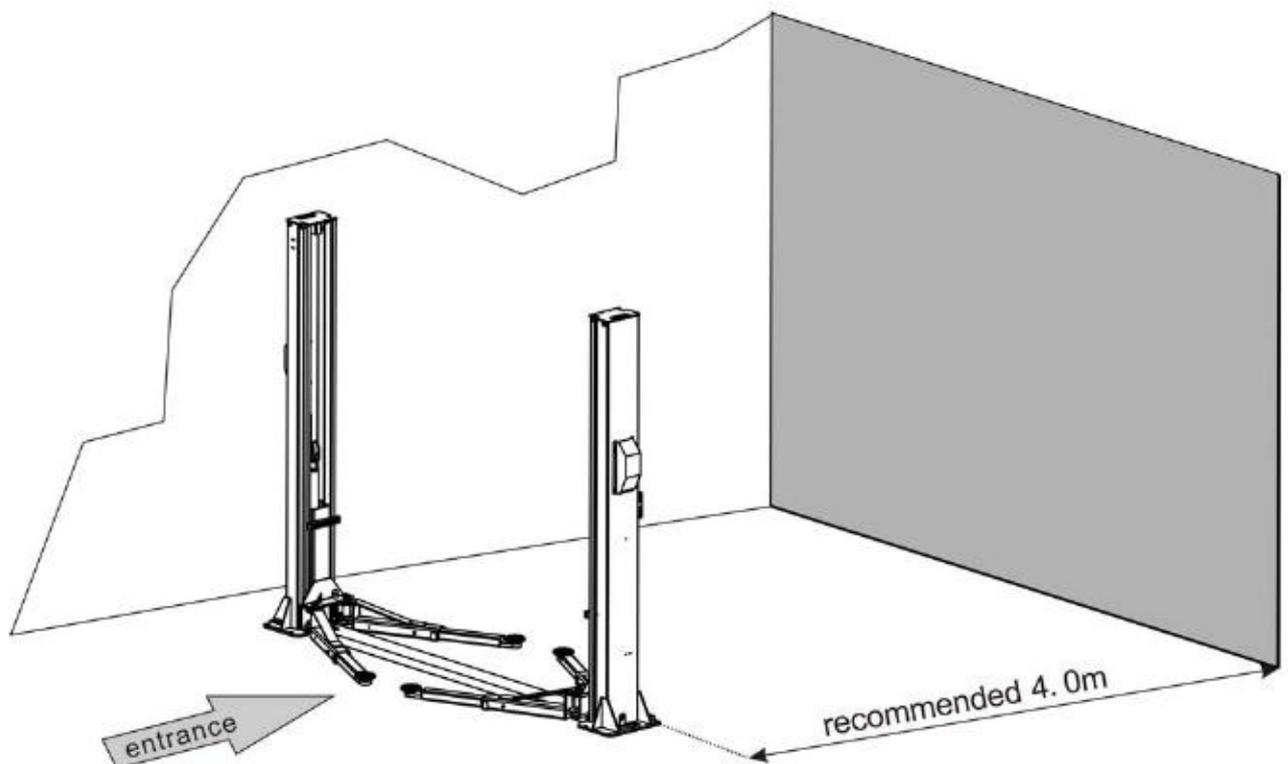

Fig.8
- The front and back of the lift should be reserved with sufficient space to accommodate all the vehicles (Fig. 8). (evaluating from the center line, each edge should be about 4m)